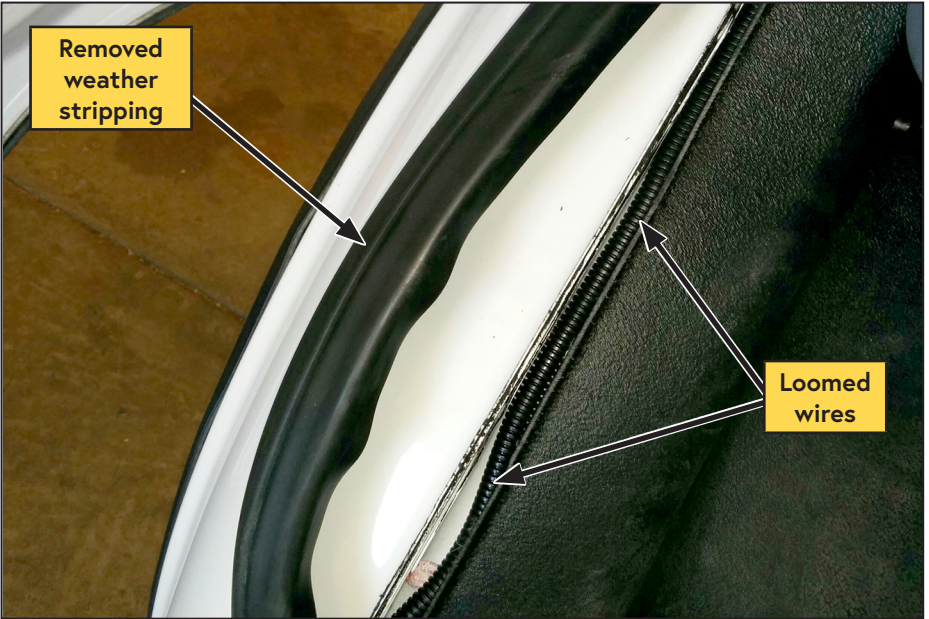

Figure 60 — Route wires
- Remove the driver side door weather stripping from the channel, and route the loomed wires between the channel and the driver side floor (Figure 60).